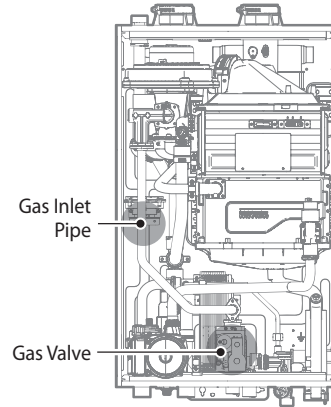

Figure 2. NCB-E Series Internal Components
- With the internal components exposed, locate the gas inlet pipe and the gas valve in the middle of the unit, as shown in Figure 2.